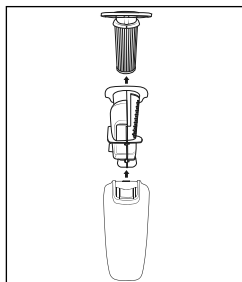

Fig. 14
- ◆ First remove the HEPA filter **20** and then the coarse filter **19** from the dirt container **10** (see fig. 14). Tap out both parts over a waste bin or similar. If necessary, you can rinse the HEPA filter **20** in fresh water. Afterwards, let it dry out completely.